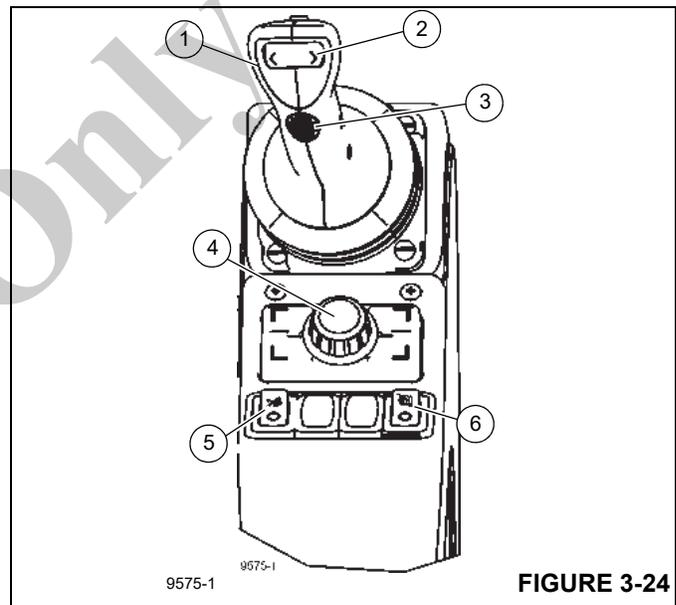

FIGURE 3-24
The Boom Lift/Main Hoist Control Lever (1), (Figure 3-24) is located on the right armrest. The controller, when pushed to the right lowers the boom, or pushed left raises the boom.
The Hoist High Speed Toggle Switch (2), (Figure 3-24) is a thumb operated three-position center spring return switch. Push and hold switch closest to the operator to change hoist speed to high – release switch to return hoist speed to normal. Push and release switch farthest from the operator to change hoist speed to high – push and release switch again to return hoist speed to normal.
The Hoist Rotation Indicator (3), (Figure 3-24) is located near the top of each hoist control lever. The hoist rotation indicator pulses when its hoist is running so the operator can sense it.
The Jog Dial Control (4), (Figure 3-24) located on the right arm rest, selects and chooses functions on the ODM or RDM to navigate the Crane Control System.
The Boom Lift Function Enable switch (5), (Figure 3-24) is a momentary switch that enables boom up and boom down. Press once to enable boom lift and press again to disable the boom lift switch.
The Main Hoist Enable Switch (6), (Figure 3-24) is a momentary switch that is located on the right armrest. Press once to enable hoist; press again to disable hoist. Pressing the switch twice rapidly enables hoist at high speed. Pressing once and holding the switch for about 2 seconds also enables high speed.